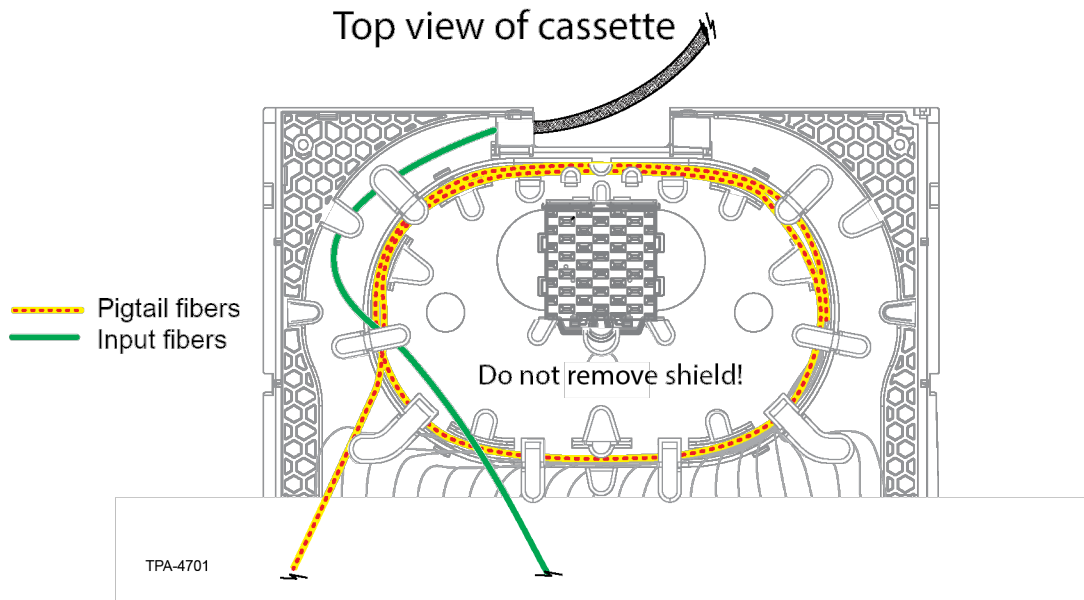

Figure 22
- Step 6: Uncoil two loops of pigtail ribbon or fibers from inside the cassette (Figure 22). Do NOT lift the plastic shield or remove fibers from beneath it.